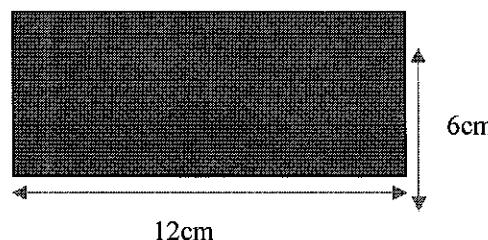

Figure A3(c)/ Rajah A3(c).
- (c) With the aids of a suitable flow chart, write an ARM Assembly language program to calculate the area of rectangle in Figure A3(c).